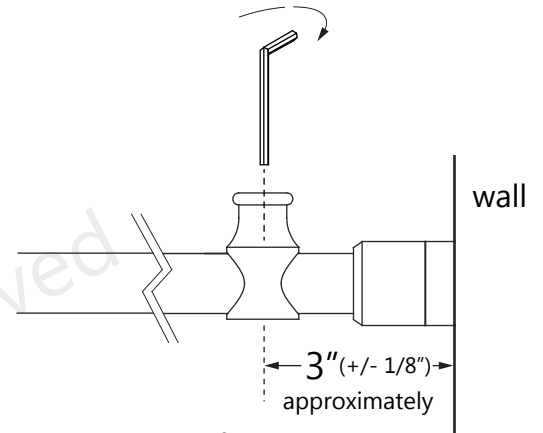
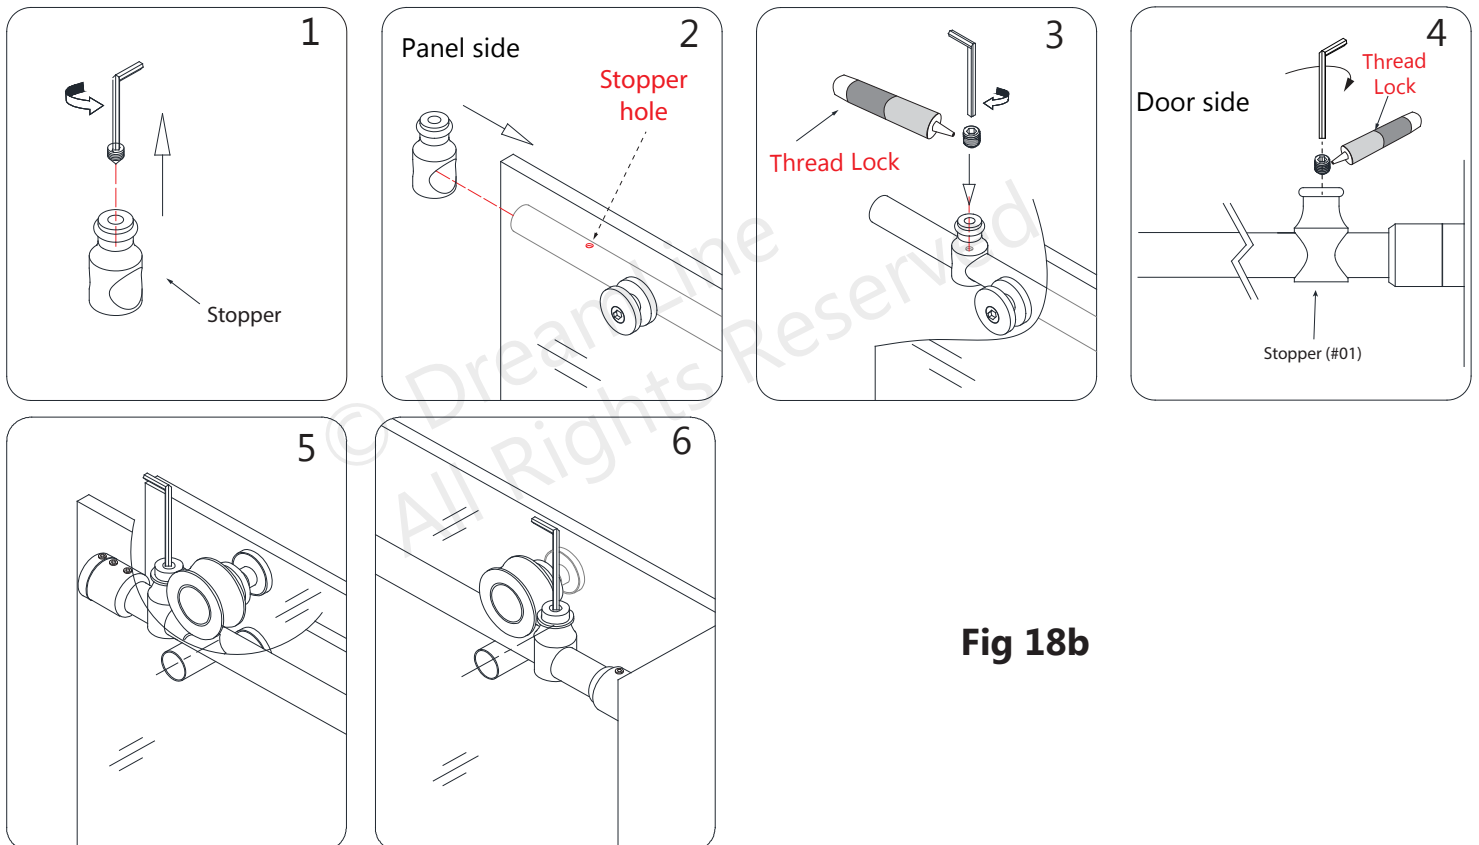

Fig 18a
Fig 18b
NOTE: The **Door Stoppers (#01)** must be positioned correctly to prevent the handle from contacting the **Stationary Glass (#02)** and to stop the **Door Glass (#05)** in a position that allows the bumper strip to create an even seal with the wall, but does not allow the door glass to bang into the wall during normal operation (**Fig 18a** and **Fig 18b**)
6. Correctly position the door side stopper and tighten the set screw with **Thread Lock Adhesive (#26)** (**Fig. 18b**)